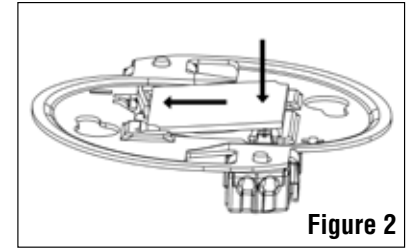

Figure 2
- Set LED array into holder so that the edge of array touches side of spring leg. (Figure 2)